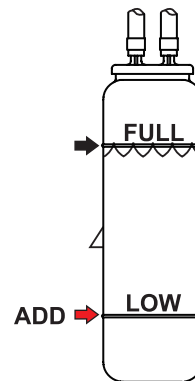

Figure 23. Coolant Reserve Tank
- Verify that the coolant level in the coolant reserve tank is between the **FULL** and **LOW** markings as shown in Figure 23.